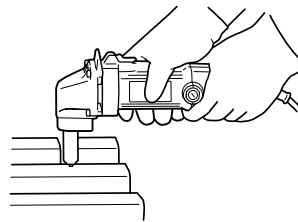
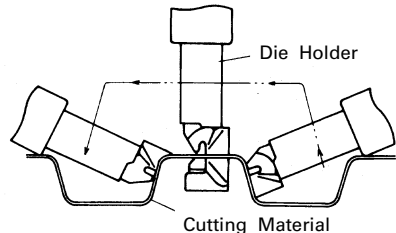

Fig. 7
Fig. 8
- (2) Grip the machine firmly with both hands as shown in Fig. 7, align with the shape of the trapezoidal plate, push the machine forward until the die holder is at right angles as shown in Fig. 8 and make the cut.